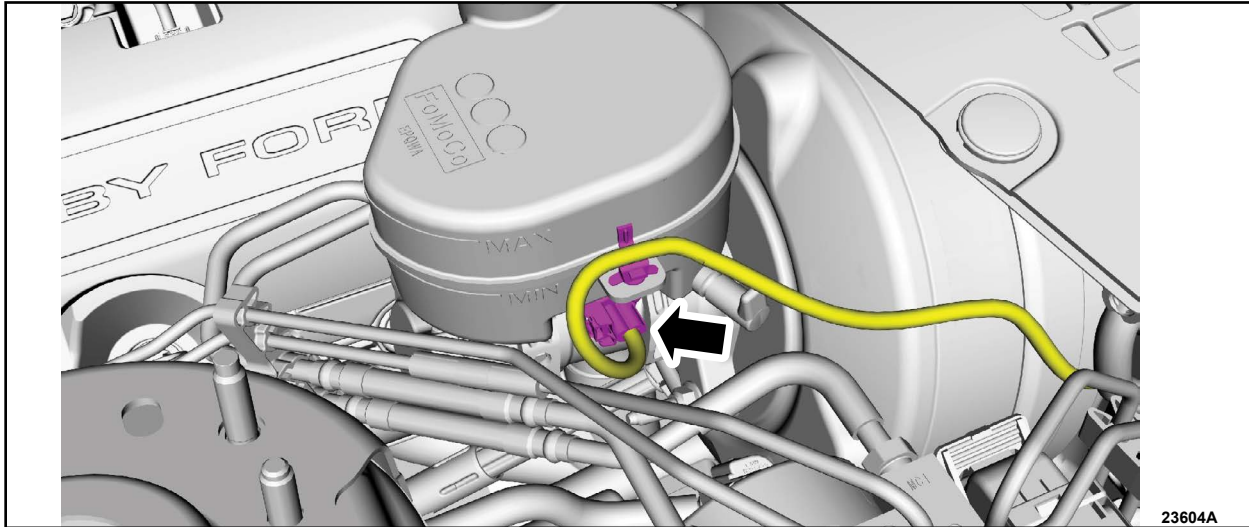

FIGURE 12
26. Disconnect the brake fluid level sensor electrical connector. See Figure 12.